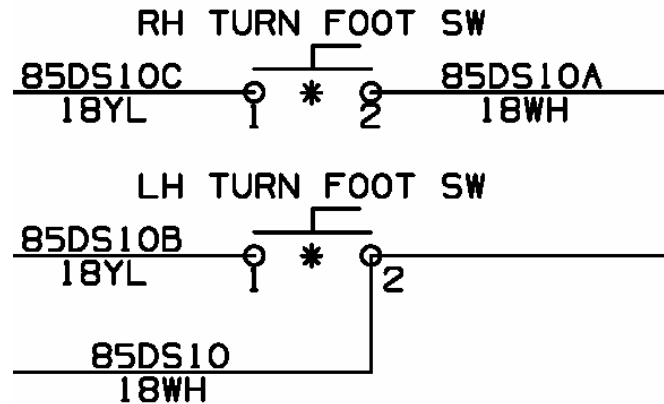

Figure 3: Turn Signal Foot Switch Wiring
9. Re-wire the switches with the existing wiring. See Figure 3 for reference.